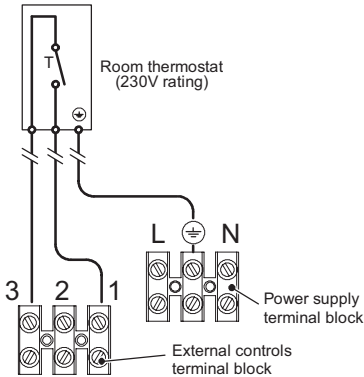
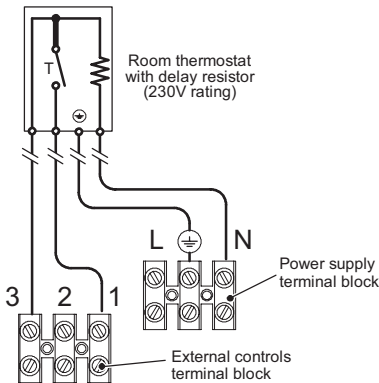

Fig. 6.17
Fig. 6.18
- Connect the room thermostat between terminals 1 and 3 as shown in Fig. 6.17 or Fig. 6.18.